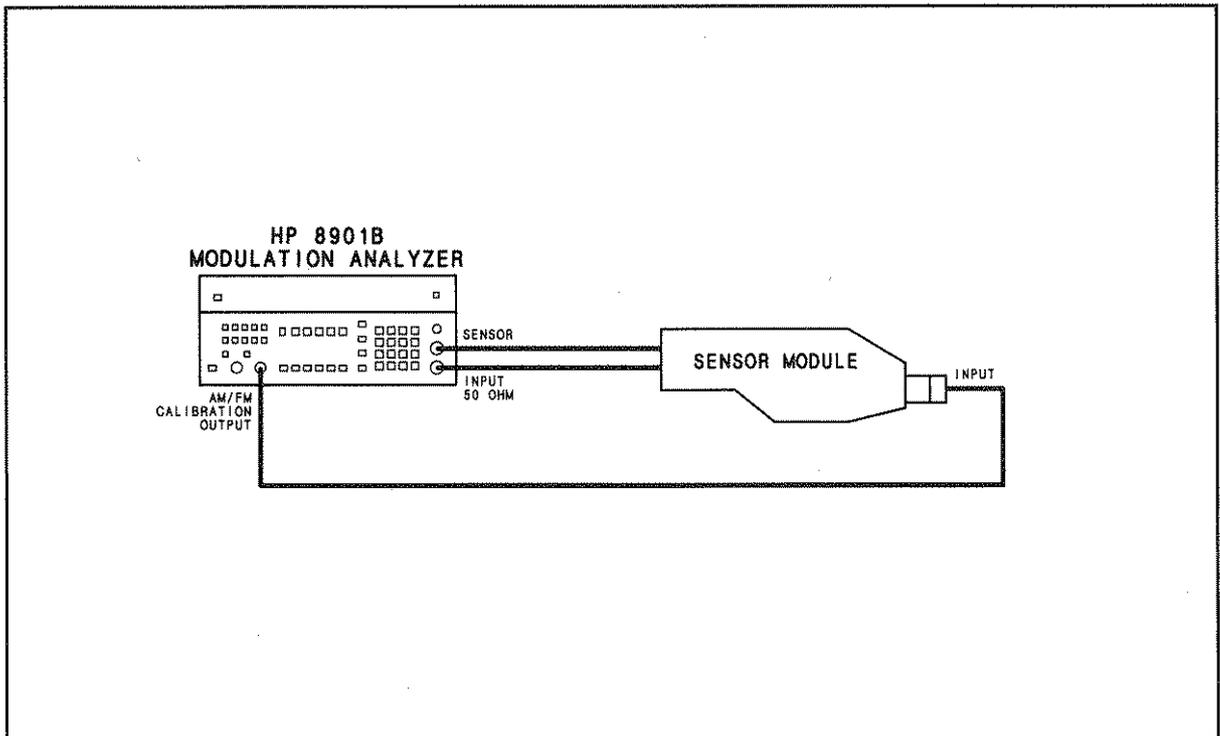

Figure 3-8. AM and FM Calibration Check Setup
16. Connect the input of the sensor module to the AM/FM CALIBRATION OUTPUT connector. (See Figure 3-8.)